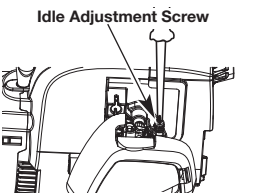

Fig. 21
The idle speed of the engine is adjustable. An idle adjustment screw is between the air filter cover and the engine starter housing (Fig. 21).
- Release the throttle trigger and let the engine idle. If the engine stops, insert a small Phillips screwdriver into the idle adjustment screw (Fig. 21). Turn the idle speed screw **clockwise** 1/8 of a turn at a time (as needed) until the engine idles smoothly.